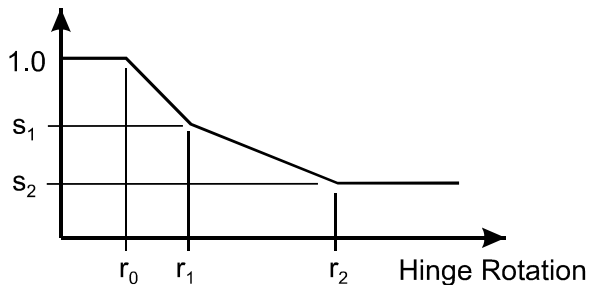

Figure 5.12 Effect of Rotation on Shear Strength
- (1) In the **Component Properties** task go to the **Strength Sections** page and the **V2-V3 Shear Strength Section** or **Shear Force Strength Section** type. Either start a new strength section or choose an existing one.
- (2) Go to the **Rotation Effect** page.
- (3) Choose the Option for Rotation Effect. The shear strength of a concrete section will usually have contributions from the concrete and the shear reinforcement. Choose whether hinge rotation affects only the concrete contribution (which is usually the case) or the total shear strength.
- (4) Figure 5.12 shows how the shear strength varies with hinge rotation. Specify the rotations r_0 , r_1 and r_2 (in radians) and the strength reduction factors s_1 and s_2 .
- (5) Specify the Axis 2 Rotation Factor. The default is 1.0, which means that the effective rotation of a P-M-M hinge in a column is the resultant rotation. If a given rotation about Axis 2 of a column causes a smaller shear strength reduction than the same rotation
The above steps and Figure 5.12 refer to hinge rotation. As noted in the next section, the rotation is not limited to the rotation of a plastic hinge component.